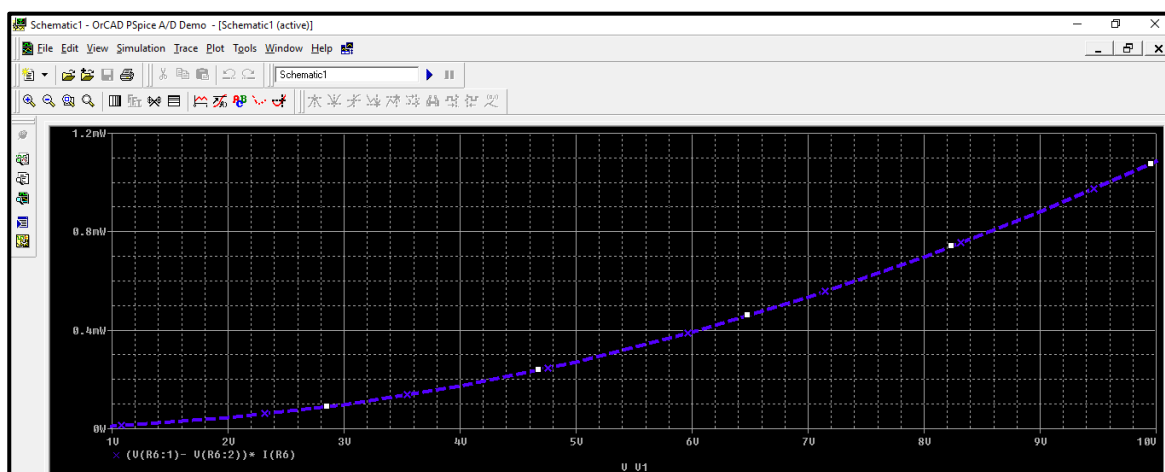

Figure.18
- After changing trace properties, the simulation output window will be as shown in figure.18, **always make sure to increase the trace width in your report.**